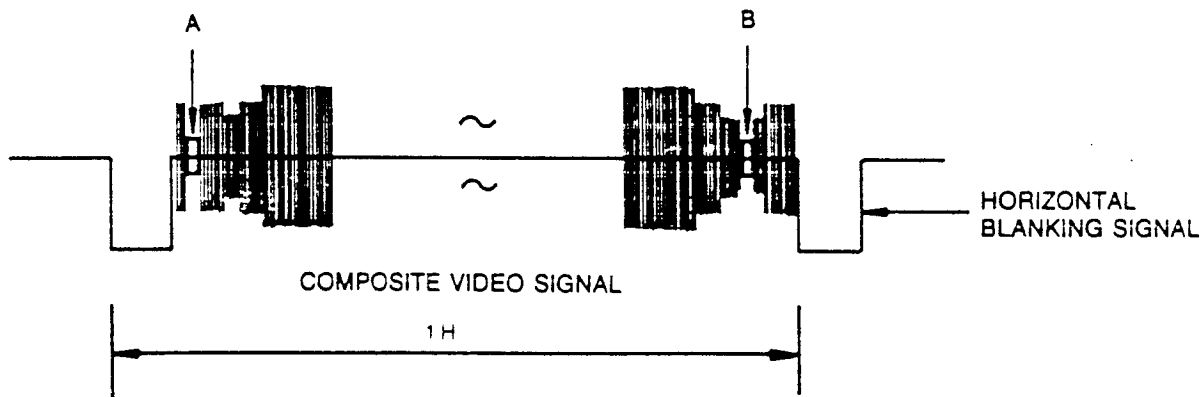

Figure 12 Waveform of Alignment Scope
4. Adjust VR501 for minimum size of point A and B as shown in figure 12.